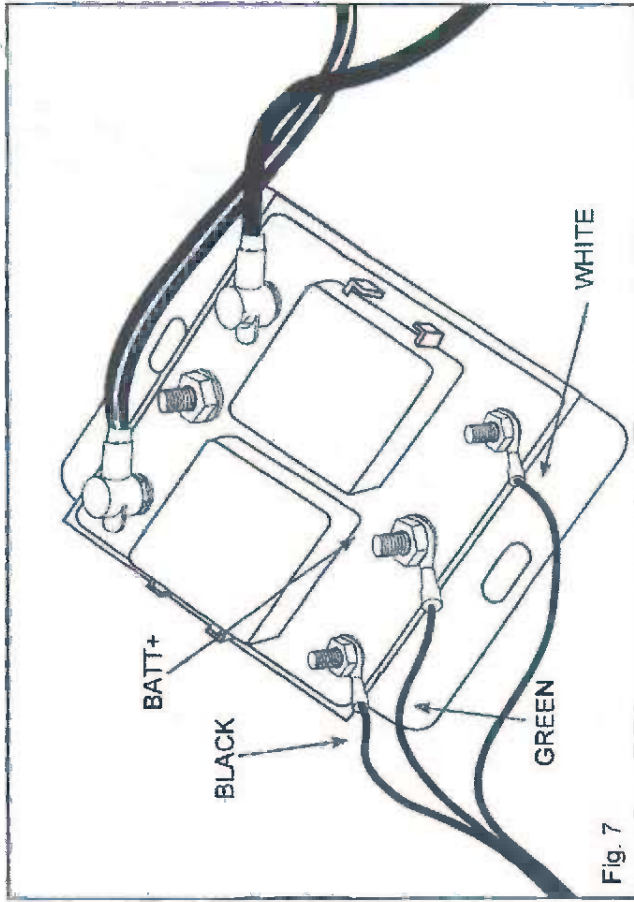

Fig. 7
- C. Attach Black to LEFT Terminal on Solenoid (Fig. 7).
Attach White to RIGHT Terminal on Solenoid (Fig. 7).
Attach Green to BATT+ on Solenoid (Fig. 7).